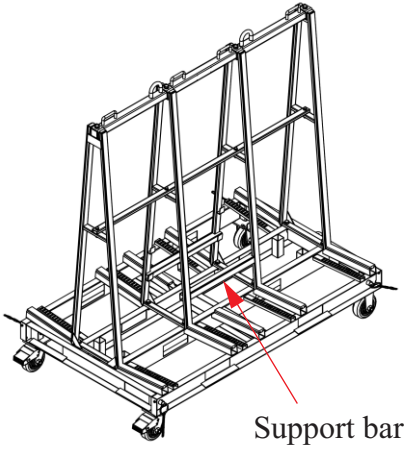

Figure 3.1
- Assemble the support bar to the appropriate position depending on the size of the stone slabs (Figure 3.1 and 3.2)